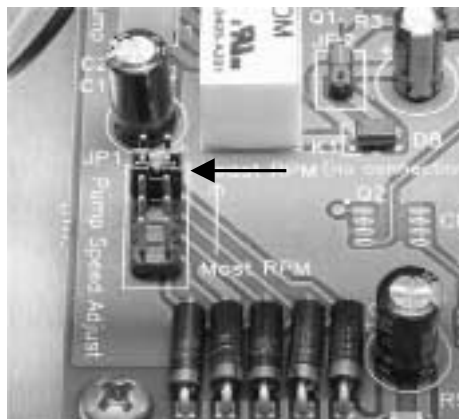

Figure 3-17. View of main board left hand corner.
2. Locate the pump speed adjustment jumpers. (Left hand side on main board) (Figure 3-17).